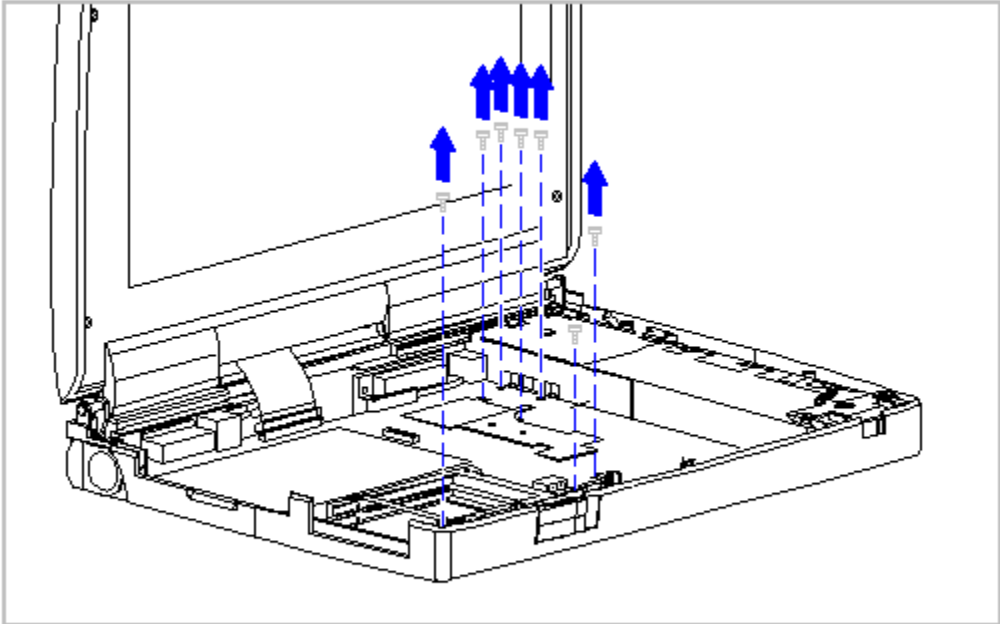

Figure 5-48. Removing the Five System Board and the Two Battery Contact Screws
- 13. Remove the five screws from the system board and the two screws from the battery contact (Figure 5-48).